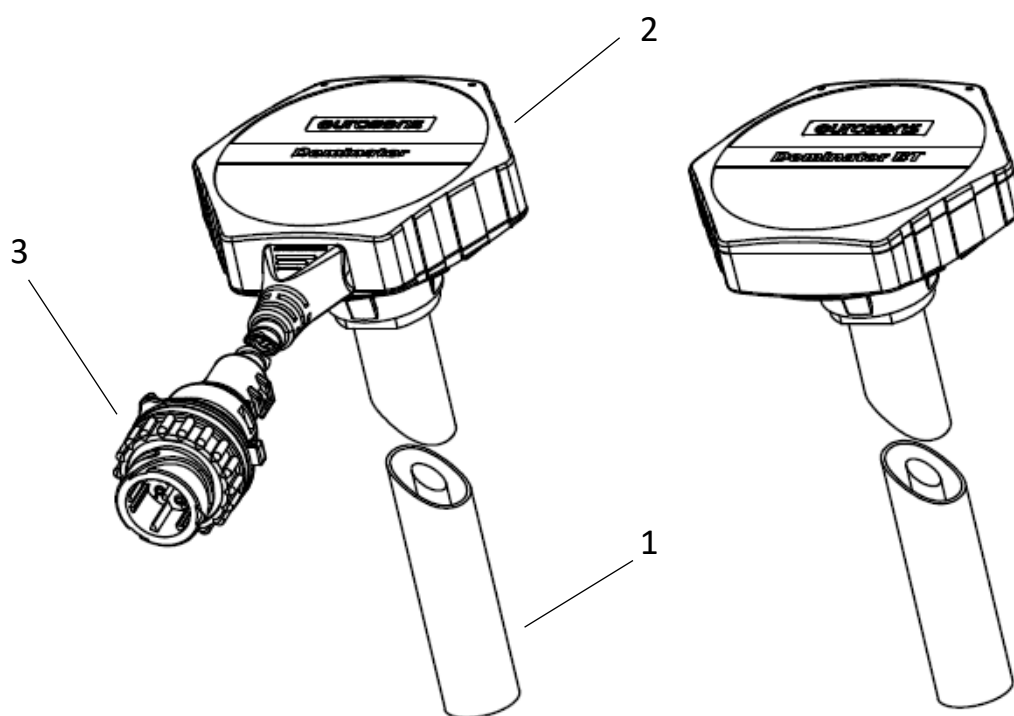

fig. 2.1. Fuel level sensors eurosens Dominator
Fuel level sensor eurosens Dominator (fig. 2.1) consists of (a) measuring electrode(s) (1), an electronic module (2) and an interface cable (3) with an electrical connection (except Dominator Bt).